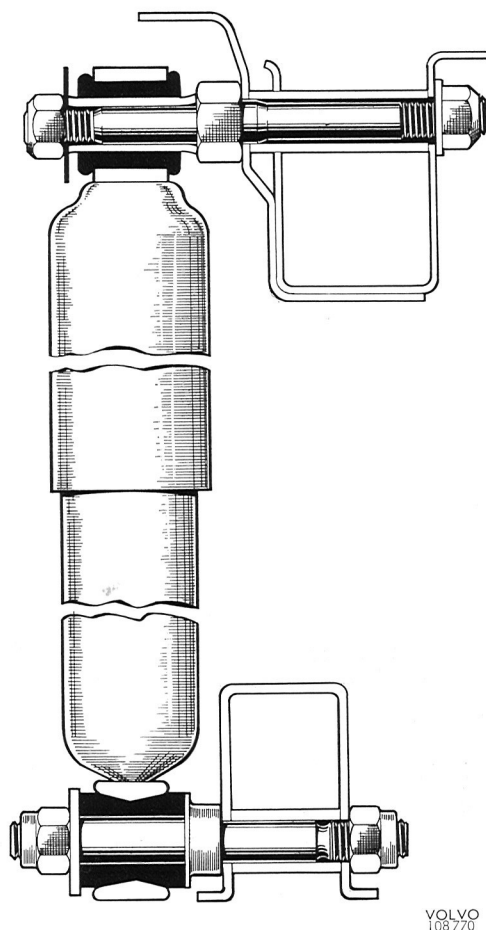

Fig. 7-10. Attachment, rear shock absorber
The rear shock absorber attachment (Fig. 7-10) consists of eyelets provided with rubber bushings (1 and 3) which cannot be disassembled. These absorbers are at the top bolted to the rear side-members and at the bottom to the support arms.
2. Install and tighten the shock absorber, see Fig. 7-10. Install the wheel and wheel nuts. Lower the vehicle. Attach the hub cap.
8. Install and tighten the nuts for the trailing arm screws. Install and tighten the nut for the lower shock absorber attachment, see Fig. 7-10.